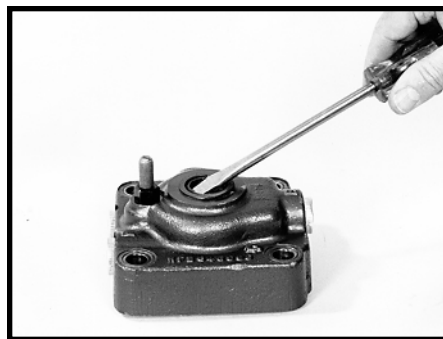

Figure 64
- 28. Remove and discard the dirt and water seal (4) SEE FIGURE 64.